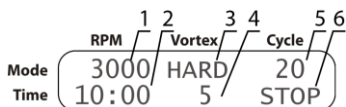

Figure 4. SMS-algorithm
- **SMS-algorithm.** Set the centrifugation speed (fig. 4/1) and time (fig. 4/2). Set the vortexing intensity (fig. 4/3) and time (fig. 4/4). Set the number of SMS-algorithm cycles (fig. 4/5).
5.2.5. After the set number of cycles is performed, the unit stops, display shows blinking indication STOP (fig. 4/6), accompanied by a sound signal. Press the **Run/Stop** key to stop the signal. Model **MSC-6000** unlocks the lid after the rotor stops. Open the lid and remove the tubes.